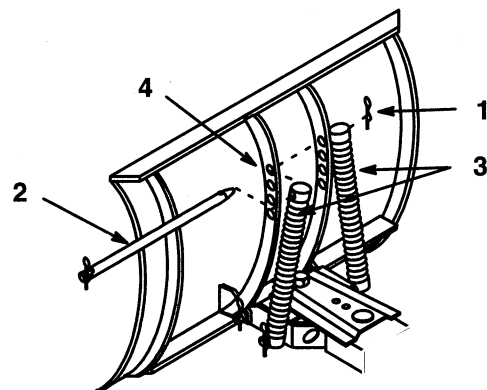

Figure 17
The blade trip springs can be mounted in 4 positions. The top hole provides greatest scraping pressure and the lower hole least scraping pressure (Fig. 17).
1. Remove hairpin cotter and slide rod out from blade and springs (Fig. 17).
2. Slide rod through springs and new hole position in blade (Fig. 17).